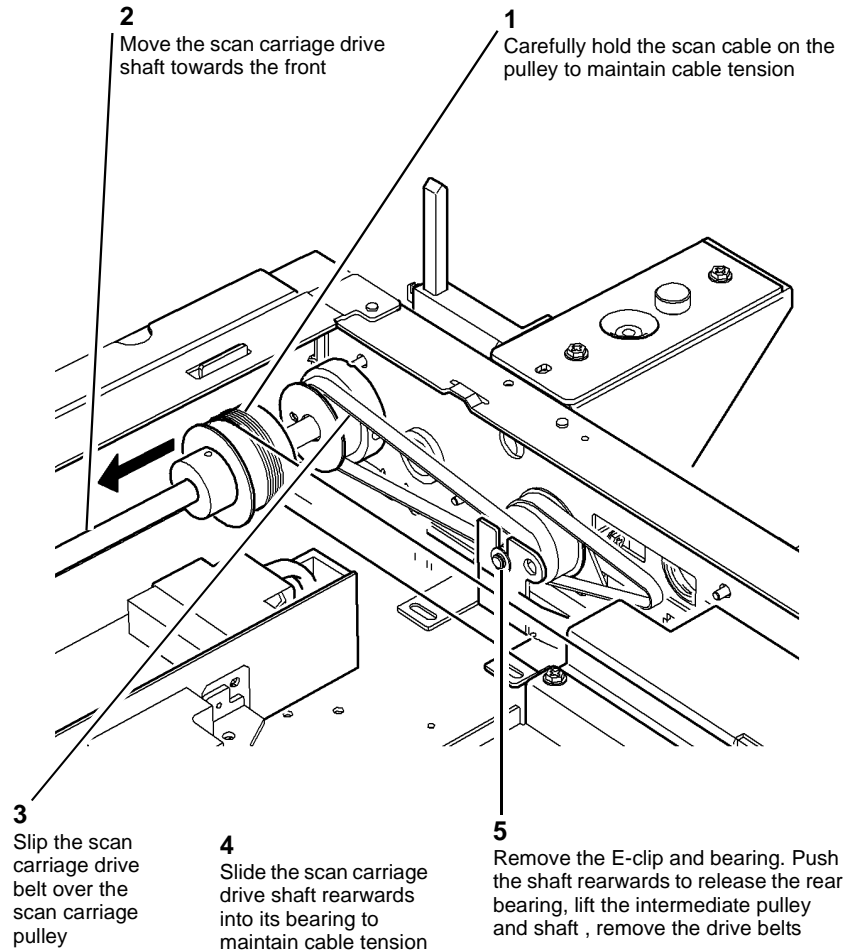

Figure 3 Remove scan belt
7. Remove the drive belts, Figure 3.